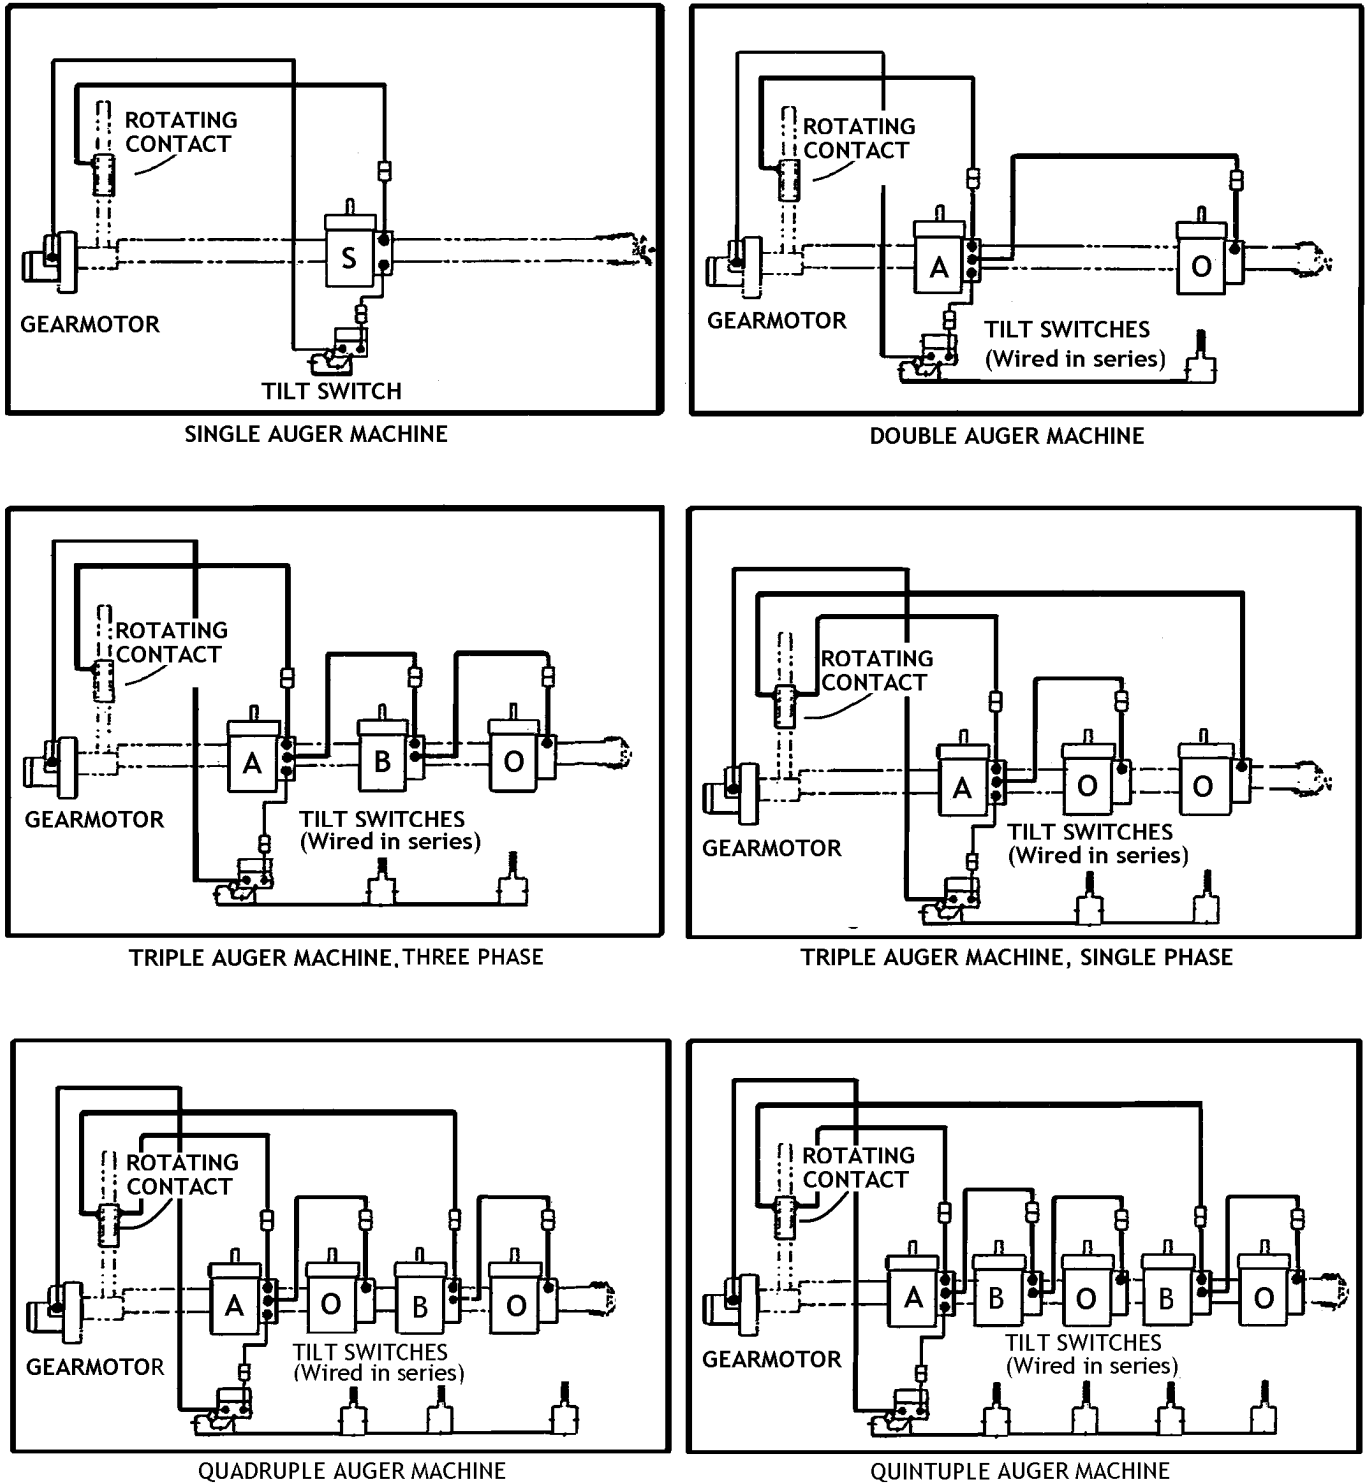

Figure 30 - Motor and Tilt Switch Cord Connection Diagrams
- 72 Connect rotating contact cord plug to plug on appropriate cord coming from "A" or "S" motor on primary carriage. See **Figure 30** on page 27 for cord connection diagrams.
- 73 On 3-auger, single phase and 4- and 5-auger units: Connect second rotating contact cord plug to plug on cord from appropriate satellite carriage motor. **Figure 30**, page 27.
- 75 Connect plugs on short cord on "A" or "S" motor to short cord on primary junction box. **Figure 30**, page 27.
- 76 On multiple-carriage units: Connect motors using plugs on appropriate cords. **Figure 30**, page 27.